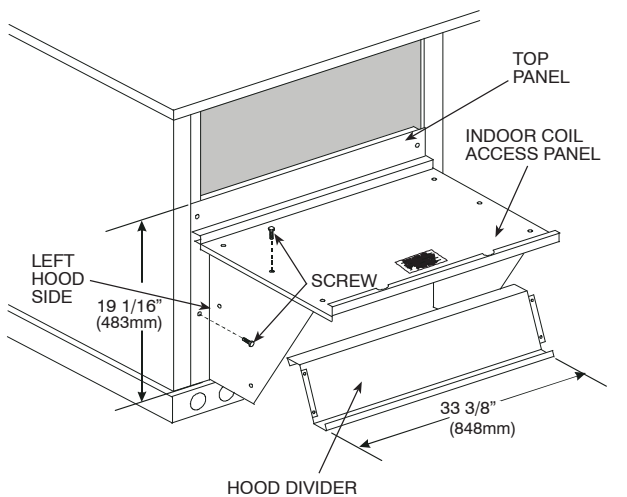

Fig. 12 - Economizer Hood Construction
- Swing out indoor coil access panel and insert the hood sides under the panel (hood top). Use the screws provided to attach the hood sides to the hood top. Use screws provided to attach the hood sides to the unit. See Fig. 12.
- Insert the hood divider between the hood sides. See Fig. 12 and 13. Secure hood divider with 2 screws on